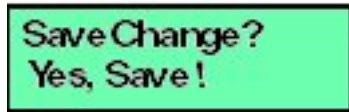

Figure 3.25. LCD Panel (Save Change)
8. Use the arrow keys as described in step 2 to enter the IP address for the DNS server, then press **ENTER**. The following message displays (Figure 3-25):